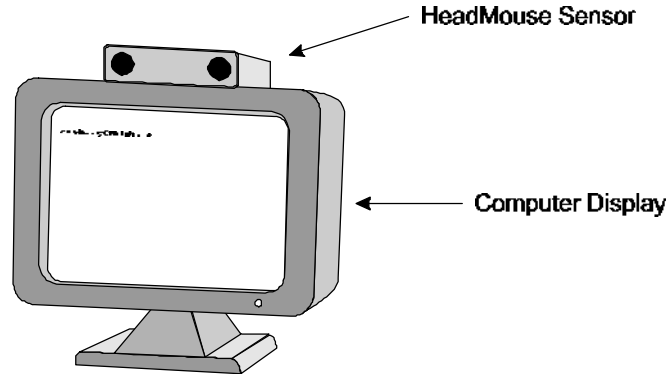

Figure 1. Desktop HeadMouse positioned on the computer monitor.
1. Remove the HeadMouse from its box, taking care not to touch the two dark optical windows on the front panel. Place the HeadMouse on your computer display as illustrated in Figure 1. Position the HeadMouse so that the front panel is approximately even with the front of your computer monitor. Also, you should generally position and orient yourself and the HeadMouse so that you are looking directly at the HeadMouse — eyeball to “eyeball”.